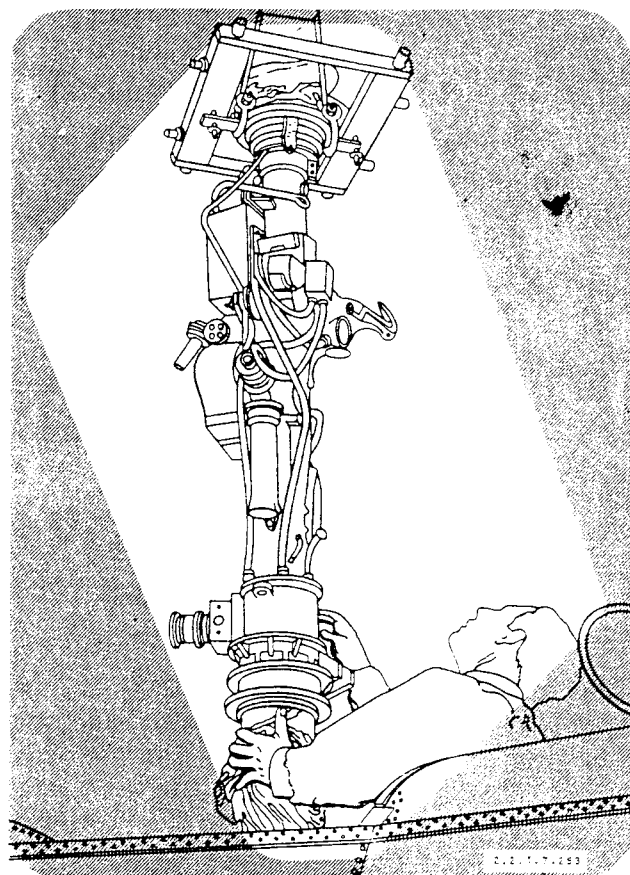

Figure 2-14. Lowering Sighting Station into Position
c. With lifting fixture attached (figure 2-14), carefully hoist sighting station into gunner's compartment.